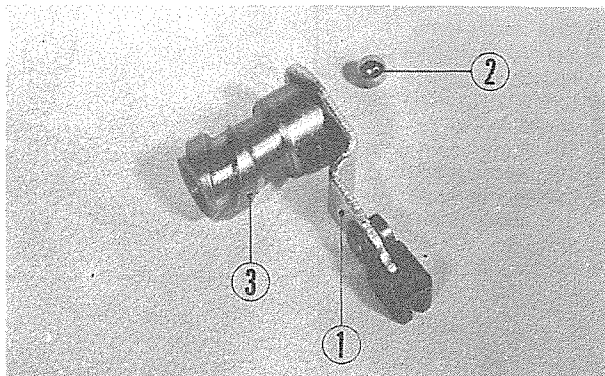

Fig. 3-30
7. Remove the lock plate, clutch adjuster, spring, clutch lever and steel ball. (See page 35, Fig. 3-30)